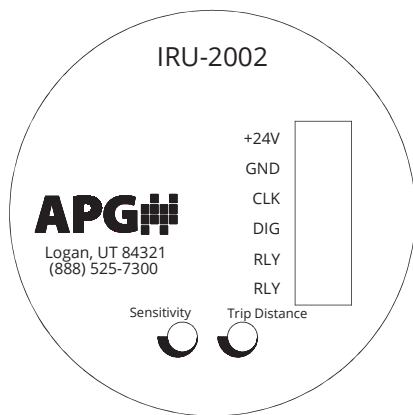
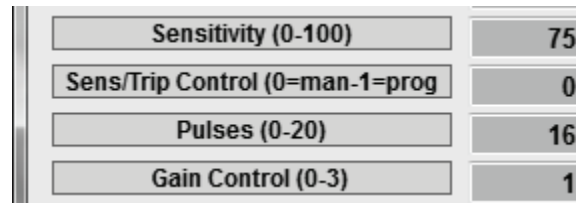

Figure 2.1
Figure 3.3
Potentiometers for setting or adjusting *Trip Distance* (IRU-2002 only) and *Sensitivity* (IRU-2002 and IRU-2003) are located inside the sensor housing along with terminal strips (See Figures 2.1 and 2.2). Both settings can also be controlled via the I2000SWR software (See Figure 3.3).
- For IRU-2002 and IRU-2003 sensors, system wiring must be connected to internal terminal strups prior to physical installation. (See Figures 2.1 and 2.2)
For IRU-2002 sensors, *Sensitivity/Trip Point Control* is used to select between potentiometer or software control of *Sensitivity* and *Relay Trip Point*. (See Figure 2.1)
*4 mA Set Point* sets the distance at which the output is 4 mA. This distance is measured from the Zero Point. See Figures 3.3 and 3.4.